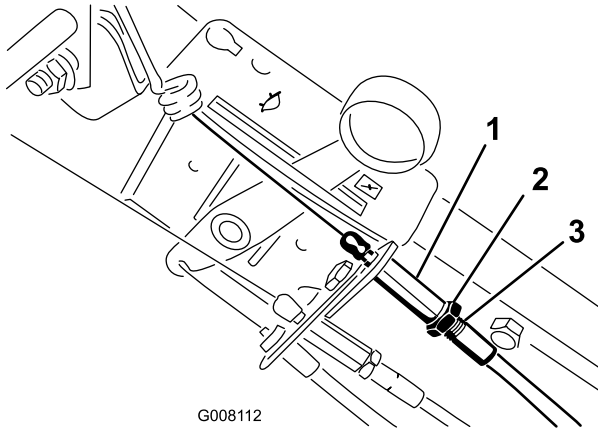

Figure 31
4. Reset the cable adjuster on the handle so that 1/4 inch (6 mm) of the threads show, then tighten the nut (Figure 31).